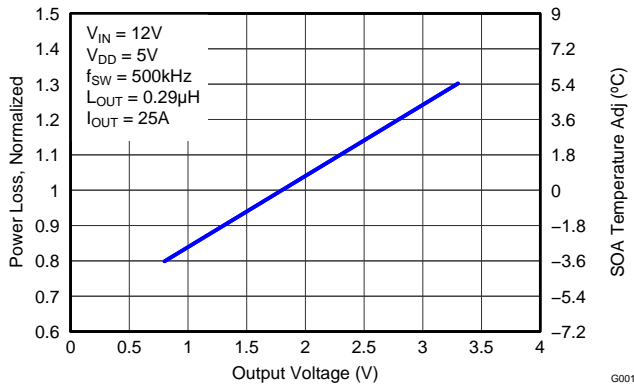

Figure 9. Normalized Power Loss vs Output Voltage
- Normalized Power Loss for output voltage  $\approx$  0.94 (Figure 9)
- SOA adjustment for output voltage  $\approx$  -1.1°C (Figure 9)